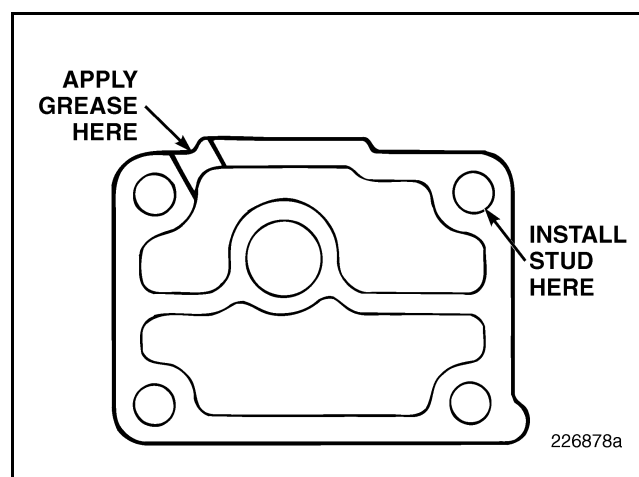

Figure 441 — Gasket Grease Application
2. Apply a small amount of grease to the back of the oil filter mounting bracket pedestal gasket around the area of the mounting hole on the left-hand side of the gasket as shown in Figure 441. This will hold the gasket in place as the oil cooler and filter assembly is installed.